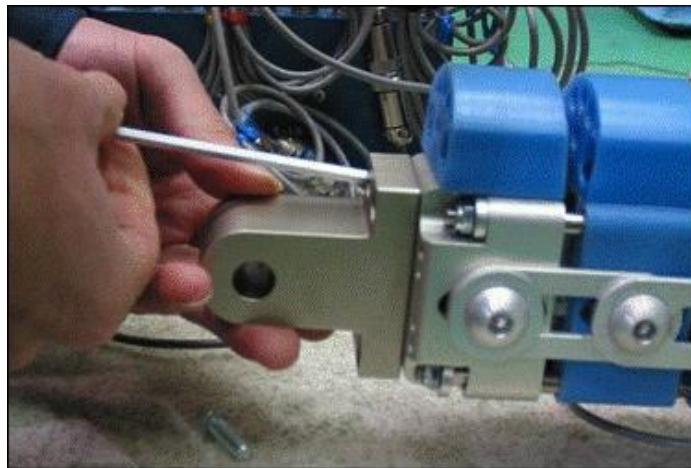

Figure 95 Attaching Pendulum Rig Pivot hinge
Step 9: Remove the black protective cover (Part Nr 133 – 5516) from the tibia bottom and attach the Pivot Hinge (Part Nr 133-8418) as shown in Figure 95 using four M6 x 18 long screws.